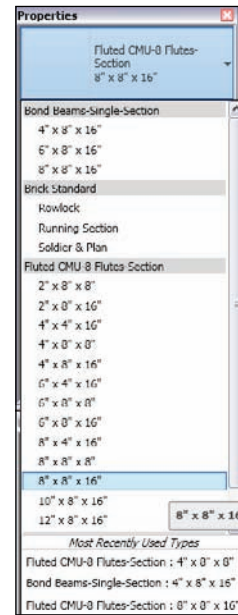

Figure 13.4
1. On the Detail panel of the Annotate tab, click Detail Component in the Component drop-down. The Type Selector in the Properties palette will list all the loaded components (see Figure 13.4).